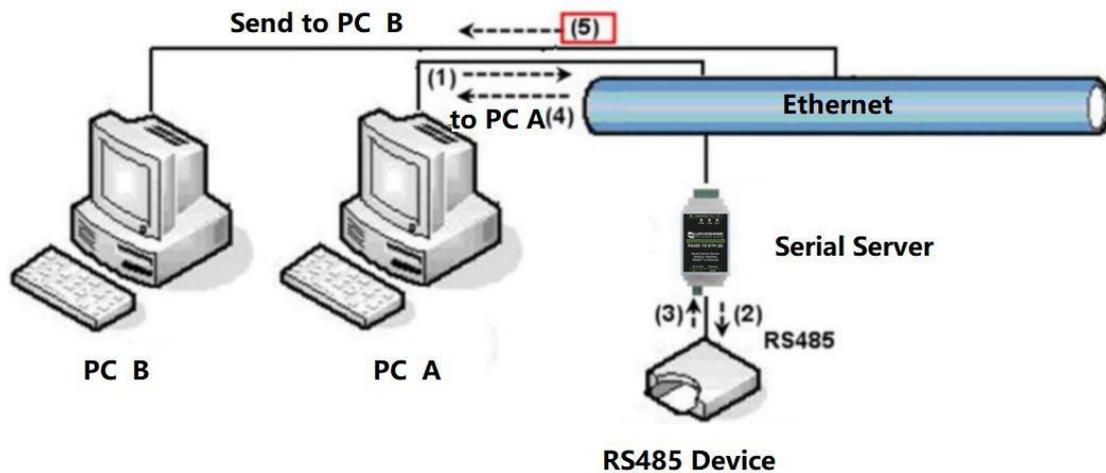

Figure 28 Multi-host function demonstration
As shown in Figure 28, in the normal mode, when two hosts: host A and host B are connected to the serial server at the same time, host A sends (1) command, RS485 device receives (2) command, RS485 device returns (3) command, but the serial port server will send (4) to host A and (5) to host B at the same time. Since the host B did not send the query, but it also received the response command (5), the host B may generate a communication abnormal error. In the multi-host mode, there will only be command (4) but not command (5), because the serial server will automatically remember the host that needs to be returned, and only return the instructions to the most recent communication host, and the query of host A will only reply to A, host B queries and replies to host B.
As shown in Figure 28, if the serial device (RTU device) is used as the master station and the network port device (Modbus TCP device) is used as the slave station, and there are multiple network port slave devices at the same time. At this time, you can use the method described in 5.2.2 Client Connecting Multiple Servers to let the serial port server as a client connect to these multiple network port devices at the same time.